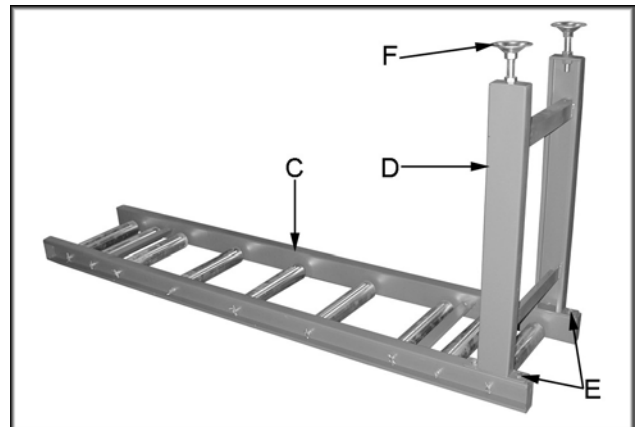

Figure 9
2. Place the outfeed roller table (C, Figure 9) upside down on a flat surface and attach the leg assembly (D, Figure 9) with four hex cap bolts, four flat washers, and four hex nuts (E, Figure 9). Repeat for infeed side.
3. Screw an adjustable foot (F, Figure 9) into each leg. Repeat for opposite side.